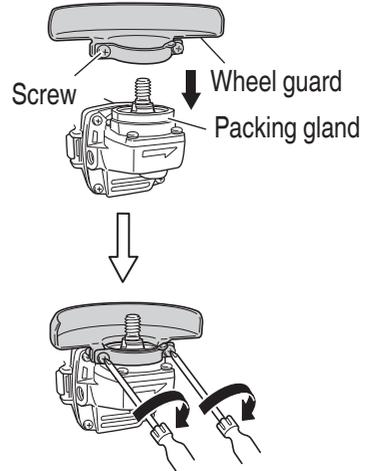

Fig. 6
3. Mounting the wheel guard (**Fig. 6**)